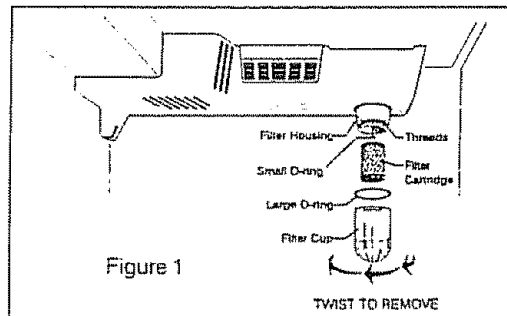

Figure 1
This ice and water filter system filters water to your ice maker and water dispenser. It is located in the upper right back corner of the fresh food compartment (See Figure 1)
Water supply does not need to be turned off, however do not use ice and water dispenser while installing filter. Refer to Figure 1 as you complete these instructions.
Refer to Figure 1 as needed. It is not necessary to turn the water supply off to change the filter.
2. Hold filter cup firmly, and unscrew counter clockwise (Figure 1) (Some water could leak out as you remove cup. This is normal.) Filter cartridge should come down with cup. If cartridge remains in housing, pull down gently, while twisting filter back and forth.
4. The large o-ring (Figure 1) that seals the filter system sets in the o-ring groove down inside the cup. Should the o-ring fall out during filter cartridge replacement, simply place it back in the groove prior to screwing the cup back in place. If the o-ring becomes damaged, you will need to order one from the Consumer Assistance Center.
10. Check for leaks. Open refrigerator door. Wipe any water drops from the filter cup. Run a glass of water. If there is a leak, unscrew filter cup, and reinsert the filter cartridge. Check placement of large O-ring (see Figure 1). Reinstall filter cup, making certain it is tightened completely.